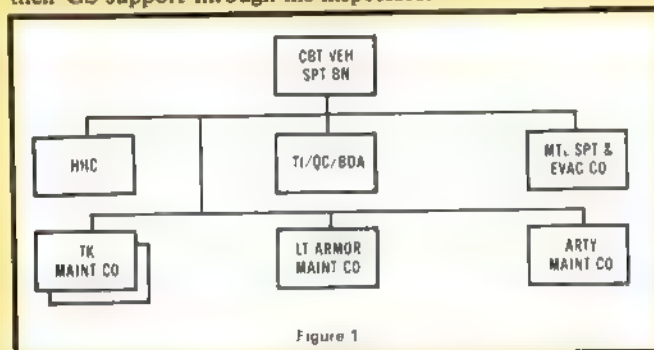

Figure 1
RGS organization envisions the combat vehicle support battalion being composed of two tank repair companies, a light armor repair company, and an artillery repair company (figure 1). The Battle Damage Assessment Section (BDAS) serves as the eyes and ears of the battalion in the forward area. BDAS inspectors go forward in the battle area to determine what can be fixed and whether the vehicle must be evacuated to one of the maintenance company locations or can be repaired on site. The Material Support and Evacuation Company will operate the General Support (GS) and Direct Exchange (DX) points and the cannibalization points; it will evacuate damaged combat vehicles and return repaired vehicles to the battle areas.